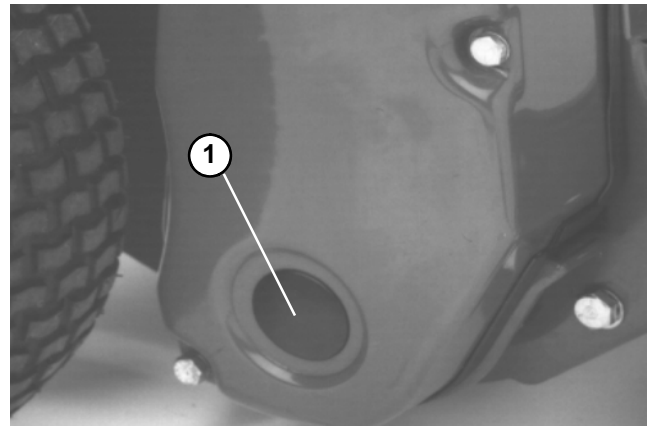

Figure 21
3. Remove the cover plug in the right reel drive cover (Fig. 21).